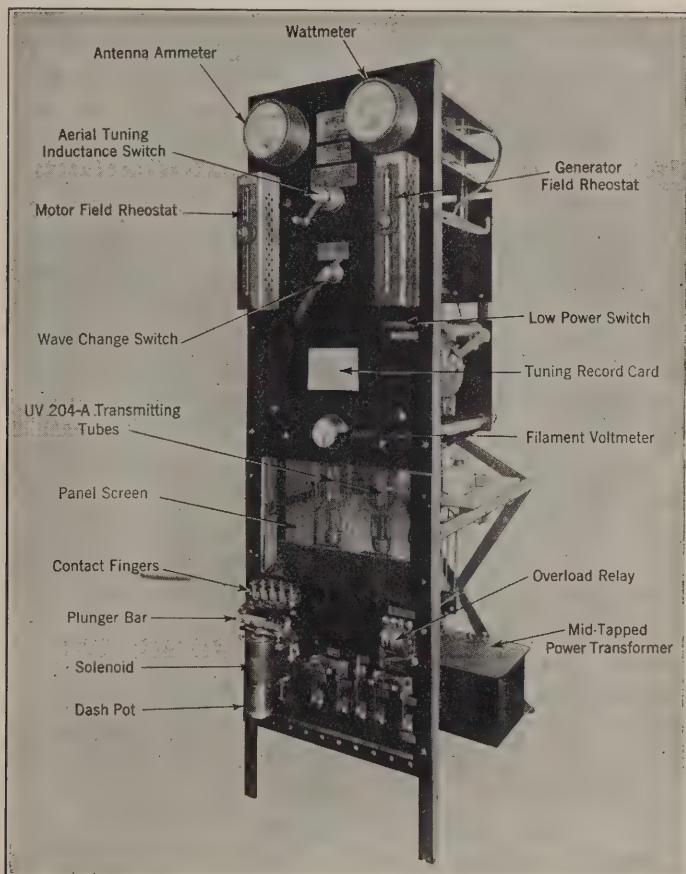

FIG. 2.—Front panel view of P-8 converted tube transmitter, type ET-3628.
A five-position switch (78), shown in the photograph Figure 2, is used to change the wavelength of the tank circuit and is mechanically connected to (83) which simultaneously changes the wavelength of the secondary or open radiating circuit. The loading inductances (82 and 84) are equipped with adjustable leads which permit the antenna circuit to be resonated to the primary or tank circuit for each of the available five wavelengths.